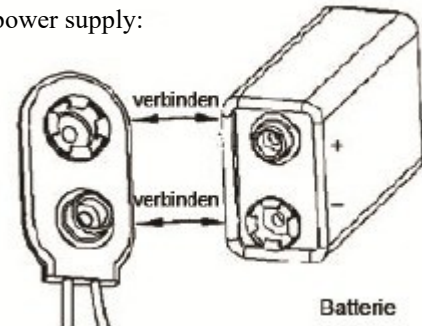

Figure 1
2. Take out the battery. Insert the new battery correctly (see fig. 1).